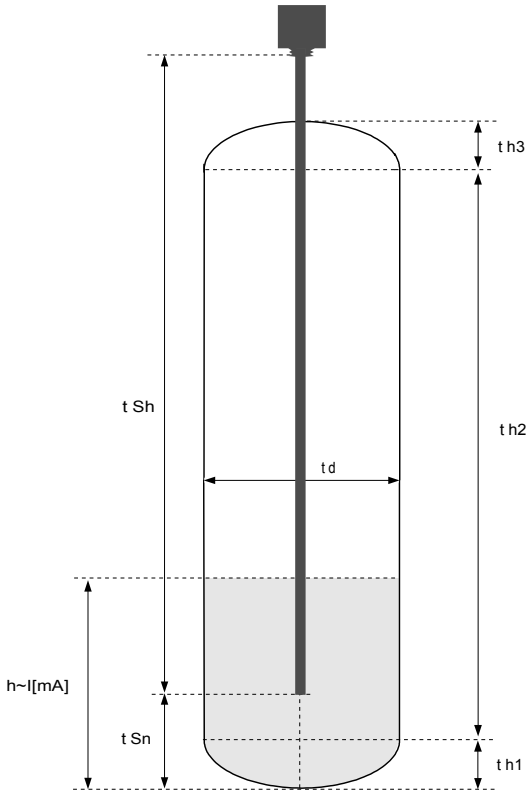
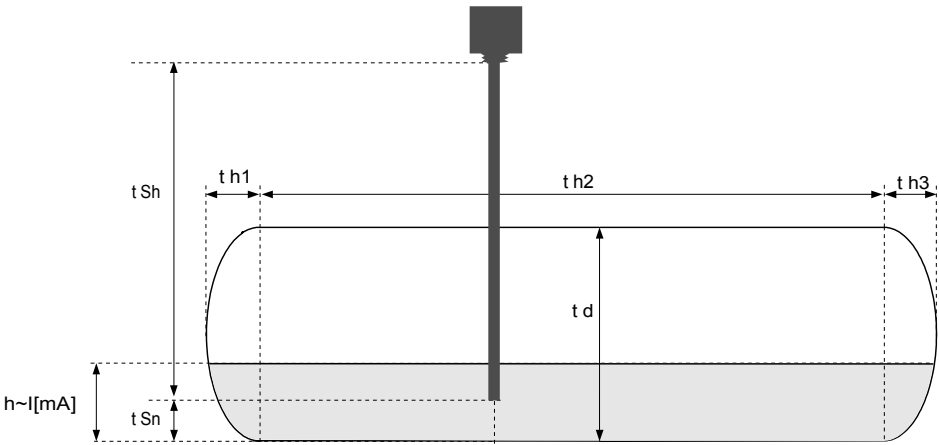

Figure 7.1 Parameters of cylindrical tank in vertical position.
Figure 7.2 Parameters of cylindrical tank in horizontal position.
**„t h1”**, **„t h2”**, **„t h3”**, **„t d”** - the parameters defining shape of cylindrical tank (Figure 7.1 and Figure 7.2).
**„t Sn”**, **„t Sh”** - parameters defining the length and position of the sensor used to measure level of liquids, gases or solids in the tank (Figure 7.1, 7.2).